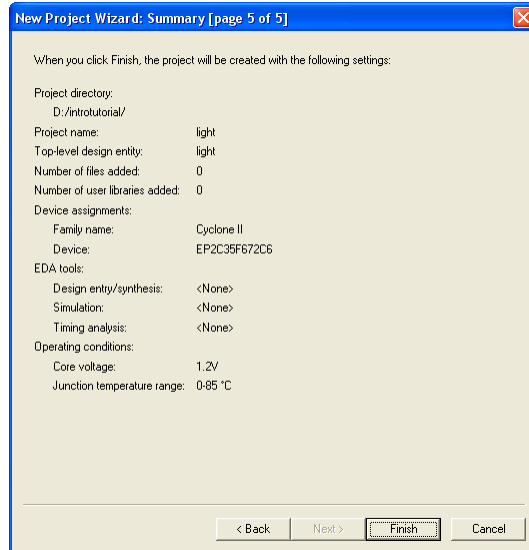

Figure 9. Summary of project settings.
- A summary of the chosen settings appears in the screen shown in Figure 9. Press **Finish**, which returns to the